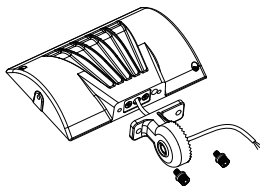

figure 1.1
Step 2: Pass the wires through hardware and fix it with screws; (figure 1.1)